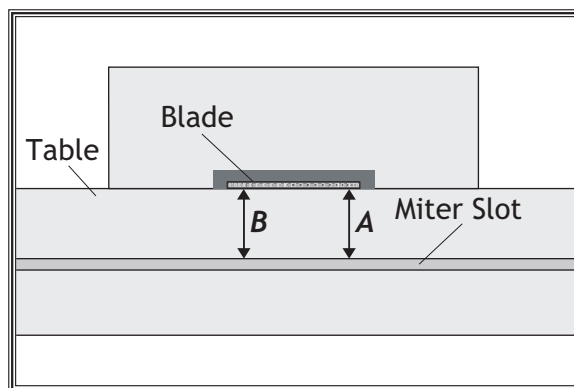

Figure 123. Measuring gap between the table and the blade.
4. Using an adjustable square or a dial indicator, measure the distance (A) between the miter slot and the front of the blade, as shown in **Figure 123**.